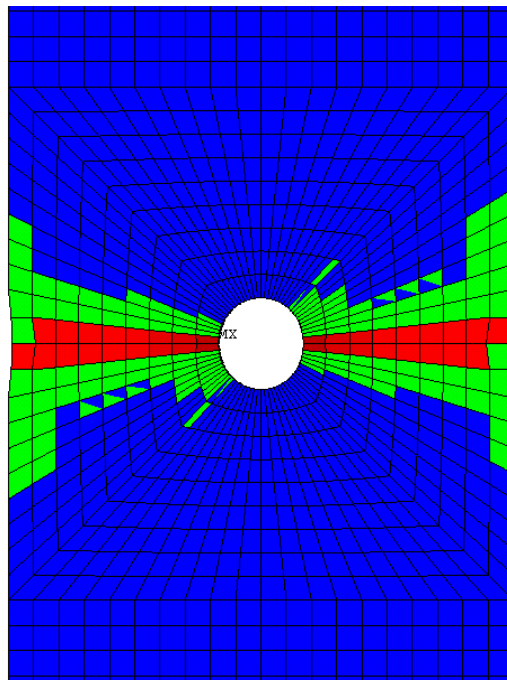

Figure 14. PLESOL contour plot of ply 1 at the end of the step.
- Since there are 3 possible values of SVAR1 for unidirectional Heliuss:MCT materials, it is useful to adjust the contour color values. Click **PlotCtrls** → **Style** → **Contours** → **Non-uniform Contours**. In the dialog box that appears, set **V1 = 1**, **V2 = 2**, and **V3 = 3** and click **OK**. The contour plot should be similar to the plot shown in Figure 14. Minor differences are usually the result of mesh variations.